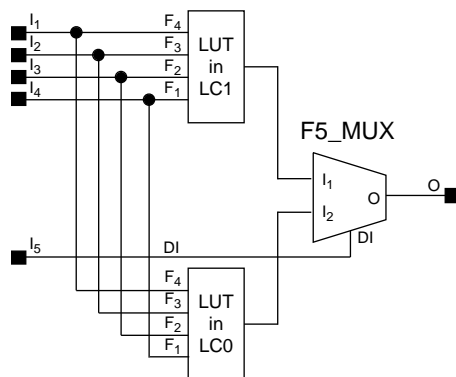

Figure 3-19 Two LUTs in Parallel Combined to Create a 5-Input Function
The use of the F5MAP forces any 5-input function to be implemented by two Lookup Tables (LUTs), the Direct Input (DI), and the F5_MUX primitive, all contained within adjacent CLB logic cells LC0 and LC1 or LC2 and LC3. Figure 3-19 illustrates the connections within a CLB.